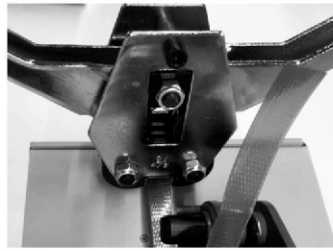

FIG. 4
3. Clamp the metal Seals with the strapping sealer tool, as shown in Fig 4.